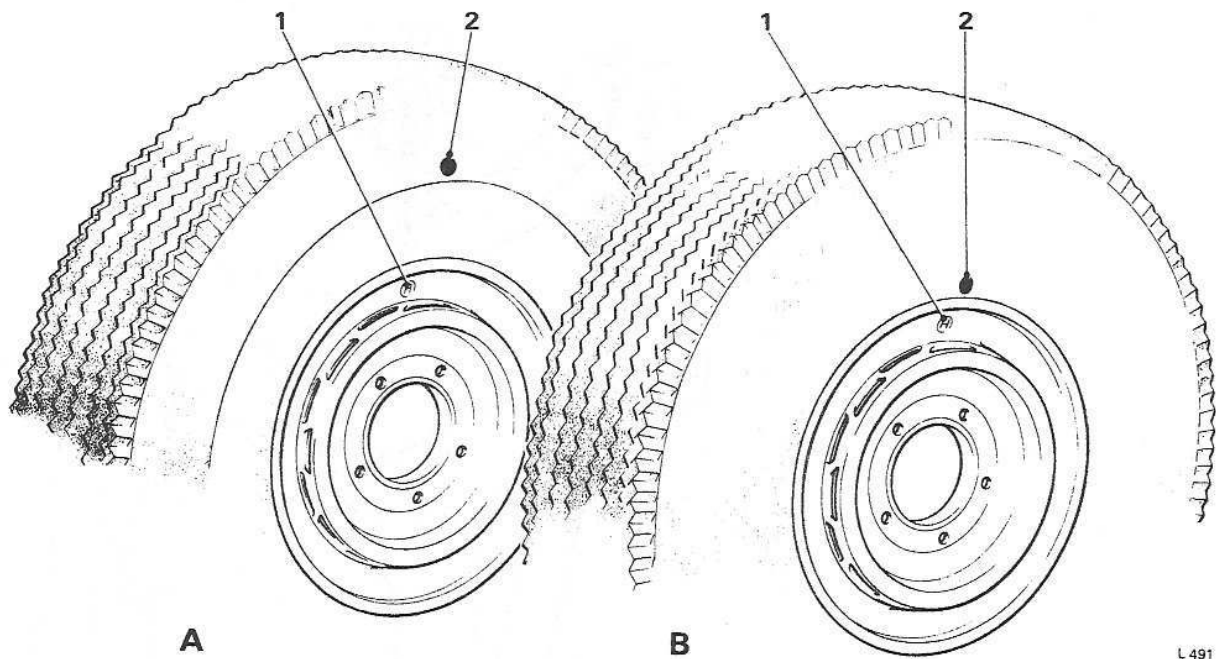

FIG. R7 WHEEL AND TYRE MARKINGS
Manufacturers mark the lowest point of the tyre with a red spot approximately 9 mm. ($\frac{3}{8}$ in.) diameter, on the tyre side wall. The highest point of the wheel is indicated with the letter 'H' stamped on the wheel inner rim as shown in Figure R7.
4. Fit the tyre to the wheel ensuring that the red spot on the tyre is aligned with the letter 'H' marked on the wheel rim (see Fig. R7).